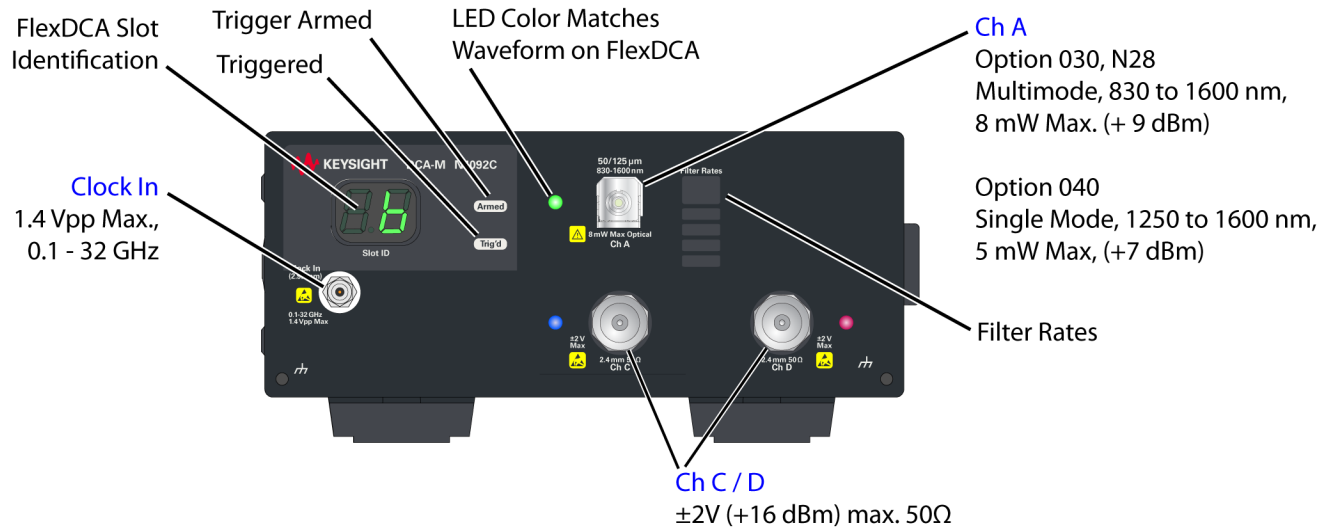

Figure 11. N1092C Front Panel
- *Figure 11, N1092C Front Panel*, on page 35